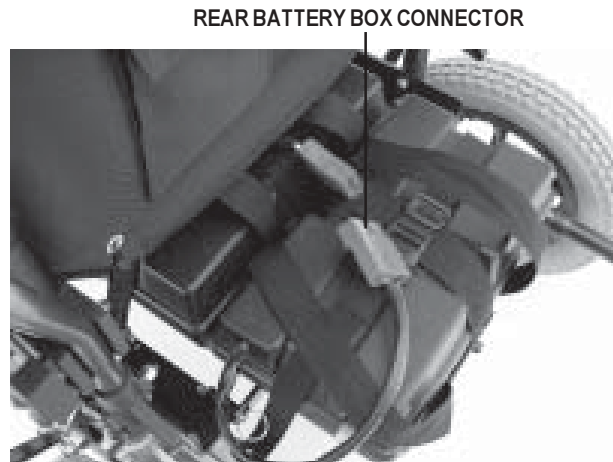

Figure 16. Rear Battery Box
6. Connect the front battery box to the rear battery box. See figure 16.